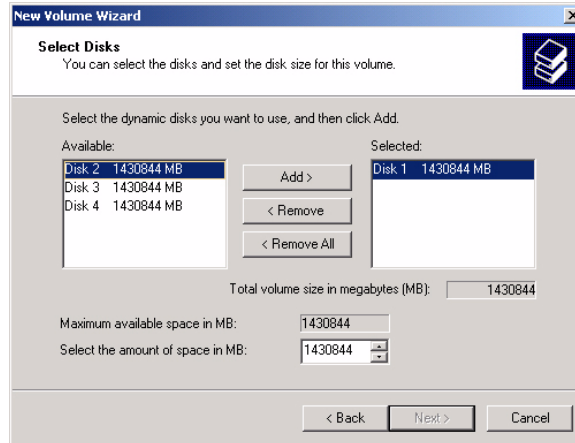

FIGURE 6-24. New Volume Wizard - Select Disks Screen.
2. The *New Volume Wizard - Select Disks* screen appears. Make sure that “Disk 1” is selected under “Selected:”. Click **NEXT >**. See Figure 6-24.